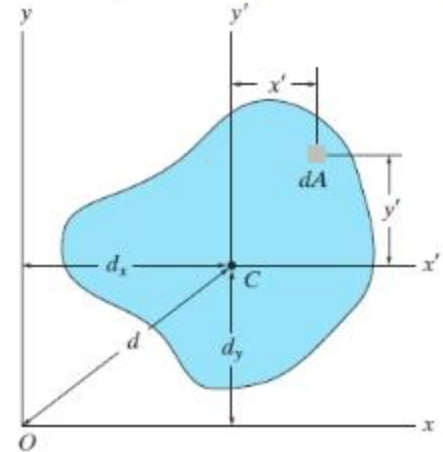

Fig. 10–3
The computation of the moment of the loading distribution about an axis will involve a quantity called the moment of inertia of the area. For example, consider the plate in Fig. 10–1, which is subjected to a fluid pressure  $p$  varies linearly with depth, such that  $p=\gamma y$ , where  $\gamma$  is the specific weight of the fluid.
**Moment of Inertia.** By definition, the moments of inertia of a differential area  $dA$  about the  $x$  and  $y$  axes are  $dI_x=y^2 dA$ , and  $dI_y=x^2 dA$  respectively, Fig. 10–2.
To find the moment of inertia of the shaded area shown in Fig. 10–3 about the  $x$  axis, we choose a differential element  $dA$  located at distance  $y'$  from the centroidal  $x'$  axis. If the distance between the parallel  $x$  and  $x'$  axes is  $dy$  then the moment of inertia of  $dA$  about the  $x$  axis is